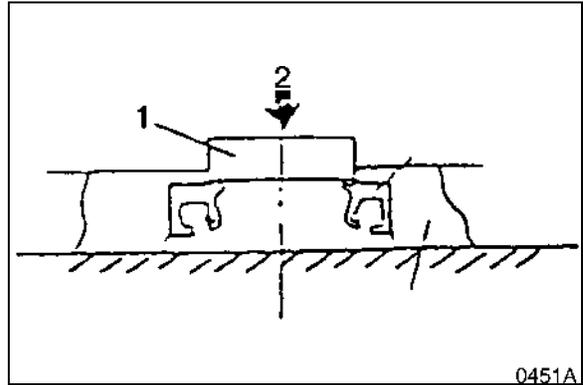

Figure 21
- A. Disassemble oil seal from the front cover if they were not separated during removal. Apply force (2, Figure 21) and use a plug (1) to hammer through drive shaft opening in cover.